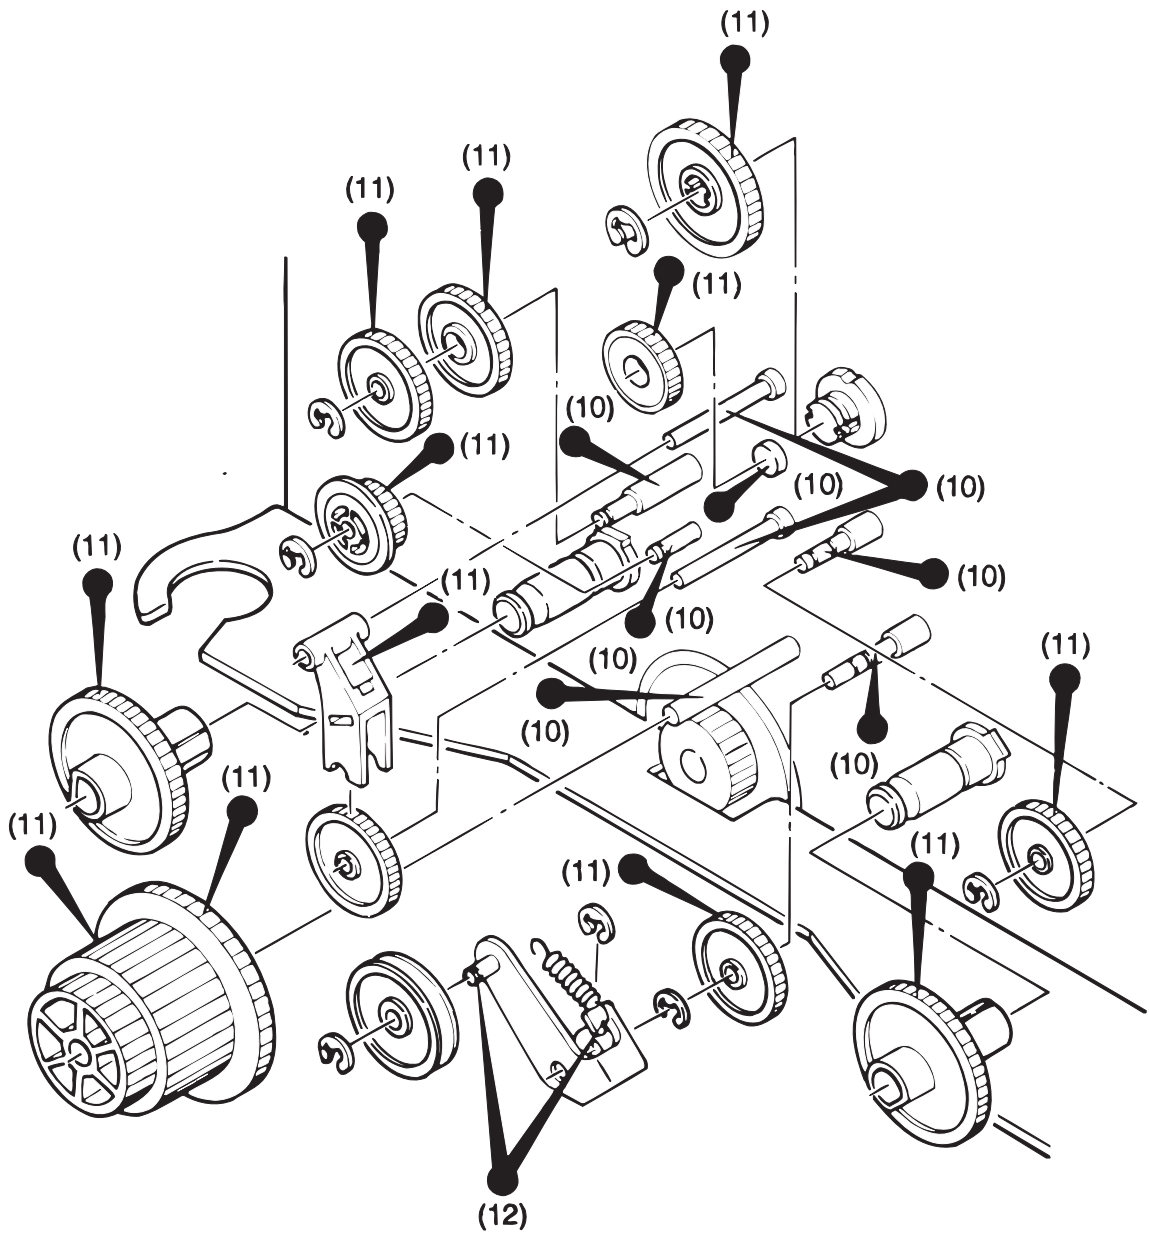

Figure 6-2. Lubrication and Adhesive Diagram 1
EPSON recommends that the printer be lubricated at the points illustrated in Figures 6-2, 6-3, and 6-4 using EPSON lubricants O2 and G26. These lubricants have been extensively tested and found to comply with needs of the printer. Refer to Table 6-1 for information on lubricants O2 and G26. Table 6-2 lists the appropriate lubricant for each point. Make sure the parts to be lubricated are clean before applying lubricant. Also avoid applying too much lubricant because it may damage related parts.
Adhesive application is necessary at the points indicated in Table 6-3 when parts are disassembled or replaced. EPSON recommends Neji Lock #2 (G) adhesive be applied to the points indicated in Figures 6-2, 6-3, and 6-4. Avoid allowing excess adhesive to overflow onto related parts.